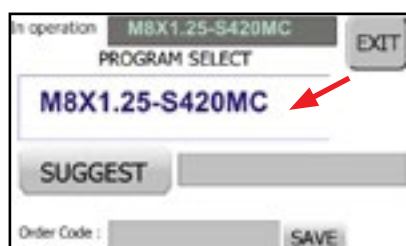

FIG. 4
- Press central box (Fig. 4). A drop-down menu will appear